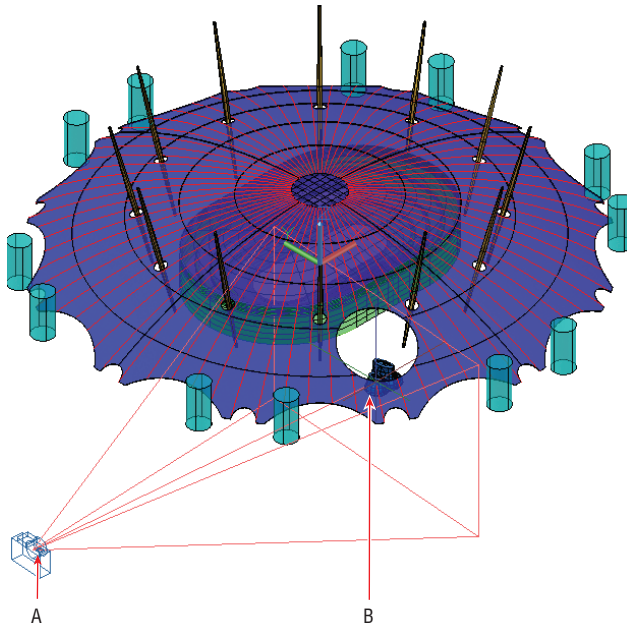

FIGURE 16.15 Placing a camera in an isometric view
5. Type **CAMERA**, and press Enter. Click points A and B, as shown in Figure 16.15, and press Enter.